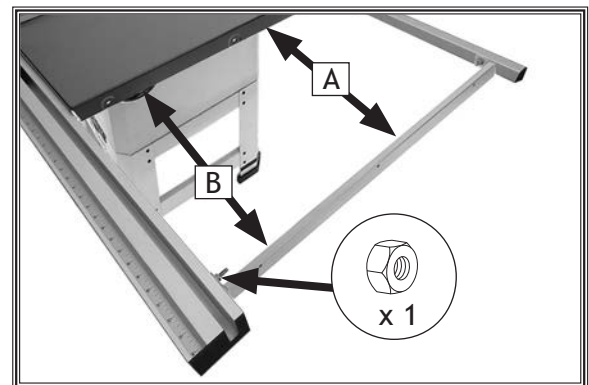

Figure 32. Fence rail brace installed.
- 30. Measure distance (A) from table edge to rear end of fence rail brace, then adjust front end of fence rail brace so it is the same distance (B) from table edge (see Figure 32).
- 31. Secure hex bolt on front of rail brace with (1) M8-1.25 hex nut.